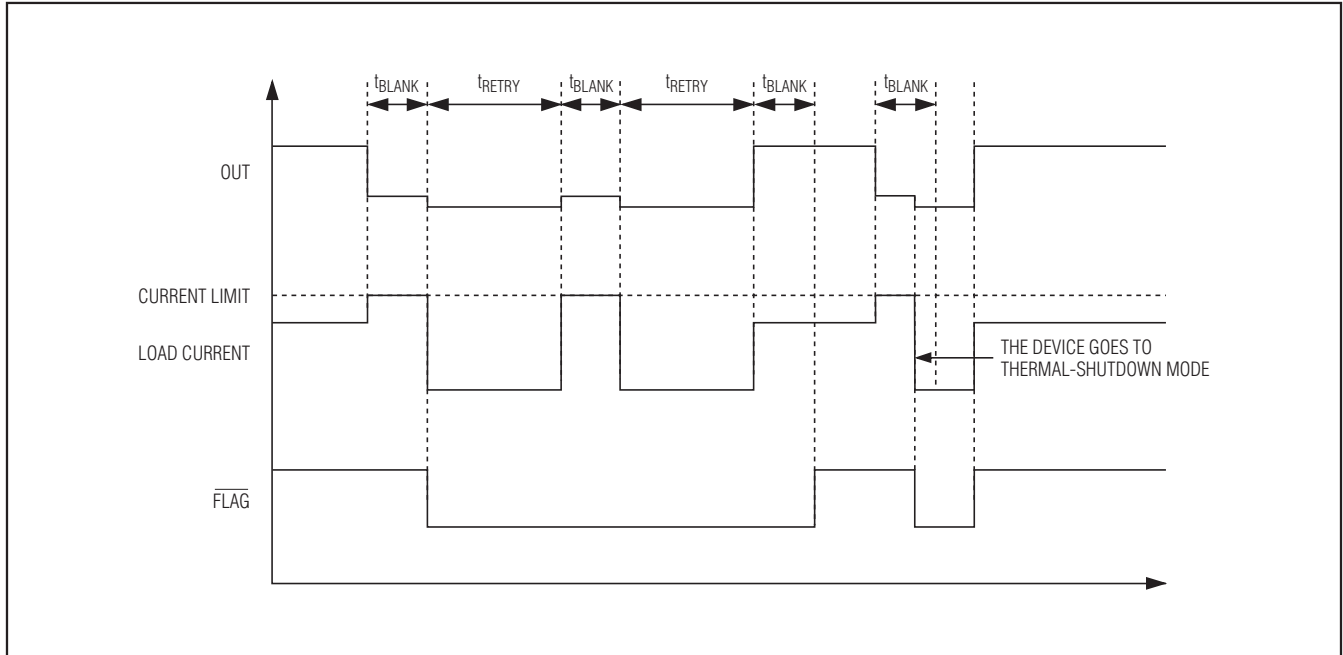

Figure 2. Autoretry Fault Diagram
**Note 3:** Blanking time and retry time are generated by the same oscillator. Therefore, the ratio of  $\frac{t_{RETRY}}{t_{BLANK}}$  is a constant value of 32. See Figures 2 and 3.